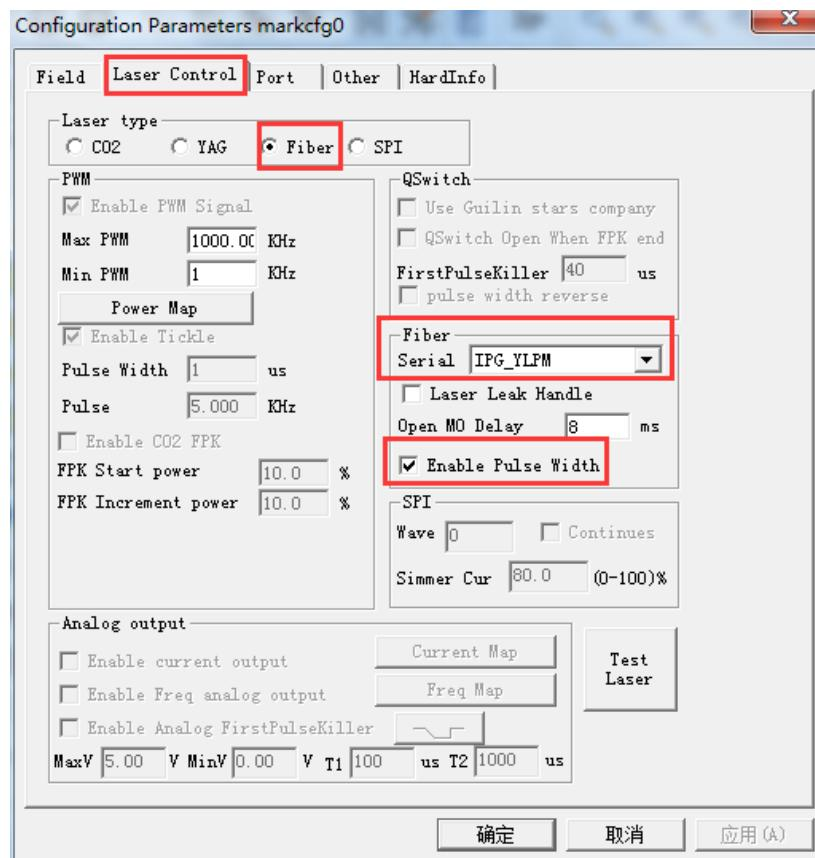

Figure 3
(4) Click Param (F3) and select Configuration Parameters, as shown in Figure 3.